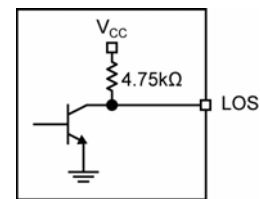

Figure 5. LOS Output Structure
The SY88313BL generates a chatter-free LOS open-collector TTL output with an internal $4.75\text{k}\Omega$ pull-up resistor as shown in Figure 5. LOS is used to determine that the input amplitude is large enough to be considered a valid input. LOS asserts high if the input amplitude falls below the threshold set by LOSLVL and de-asserts low otherwise. LOS can be fed back to the enable bar (EN) input to maintain output stability under a loss of signal condition. /EN de-asserts the true output signal without removing the input signals. Typical 3.4dB LOS hysteresis is provided to prevent chattering.